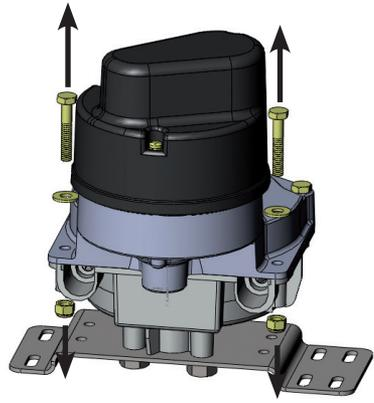

Fig B45 - Remove cable locking bolts
- i) Remove the lock bolts, nuts and washers from both ports (Fig B45).